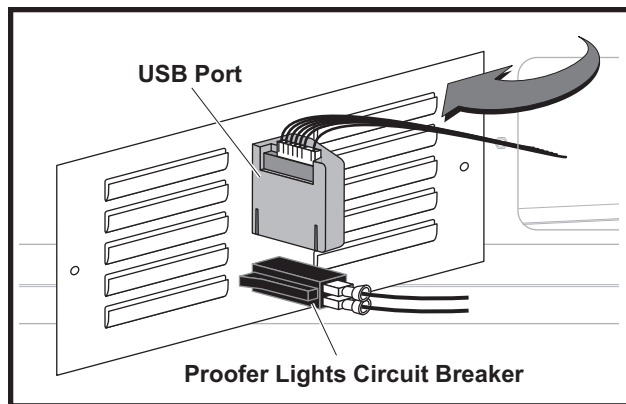

Figure 18: Proofer Lights Circuit Breaker and USB Port
3. Refer to figure 18 and unplug the wire harness to the USB port.